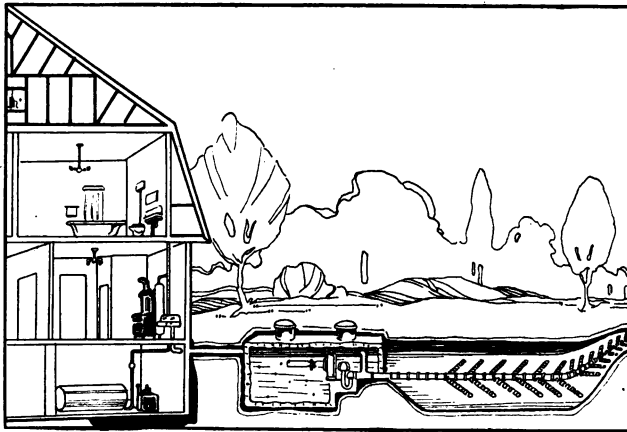

FIG. 81. Septic tank and tile.
**152. Relative Value of Cesspool and Septic Tank.** Sewer pipes for private water systems usually drain into cesspools or septic tanks (Figs. 81, and 81-a). The waste goes thru a process of decomposition before passing out into the soil.